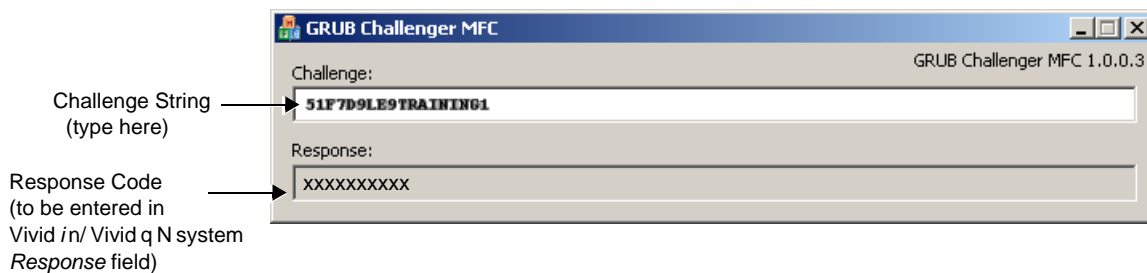

Figure 7-137 Grub Challenger MFC
- 3.) From your PC, open Grub Challenger MFC - see Figure 7-137.
A Response code is displayed below the Challenge string in the Grub Challenger screen - see Figure 7-137.